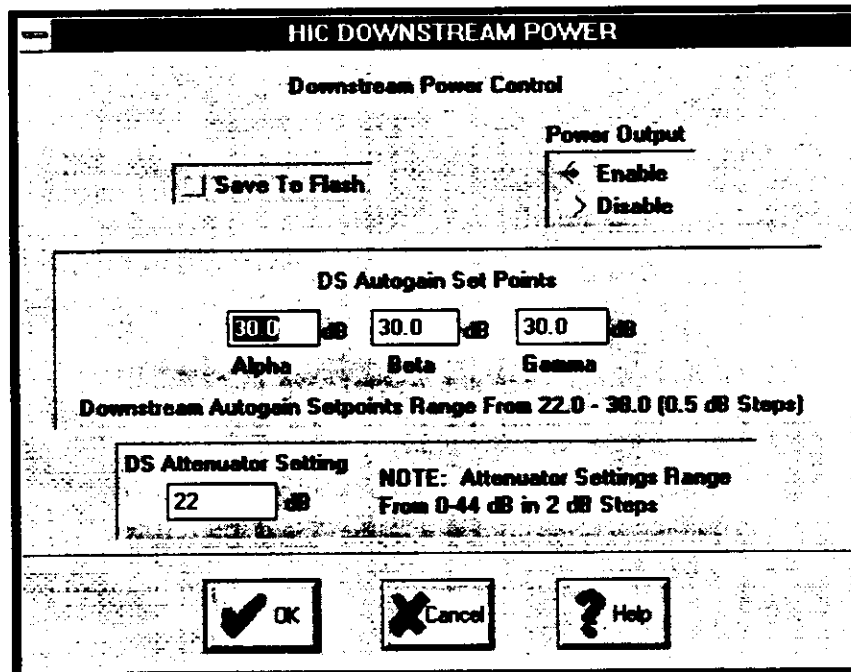

Figure 2-23. HIC DOWNSTREAM POWER Dialog
- e. Adjust attenuation as needed in the HIC DOWNSTREAM POWER Dialog (Figure 2-23) to attain the required power level specification. Record the amplitude and attenuator setting.